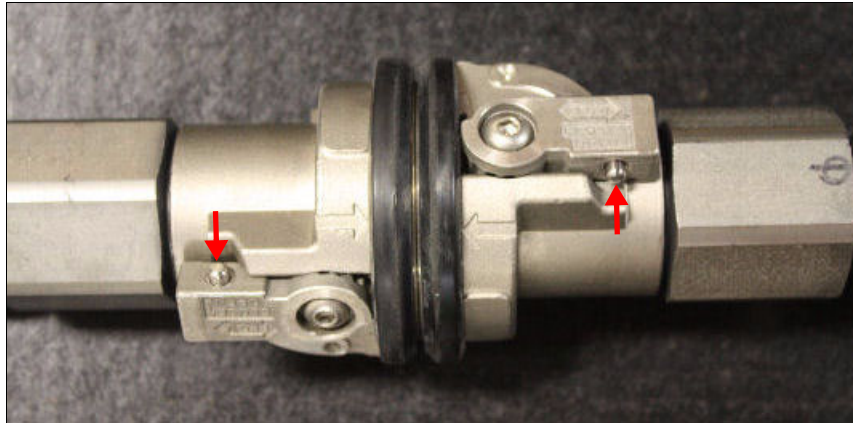

Figure 1-25 Coolant hose connection locking pin and fully open
1. To open or close the valve, press the interlock pin on the valve lever. See Figure 1-25.